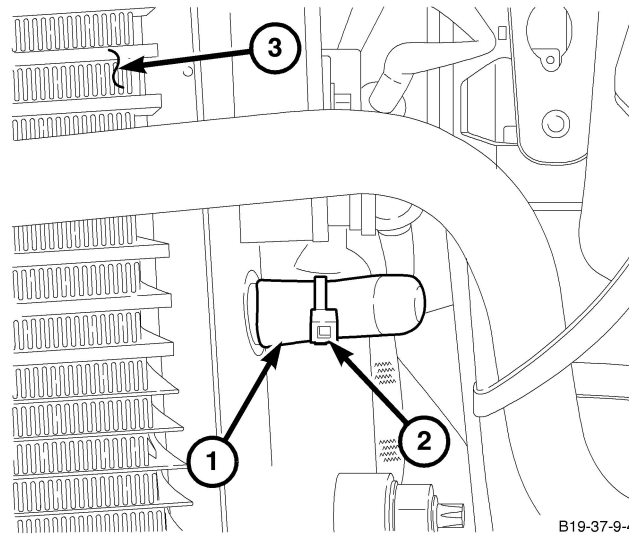

Fig. 5 BOOT COVER
19. Install the black protective boots on the old inlet and outlet ports of the power steering cooler and secure them with zip ties as shown in (Fig. 5).